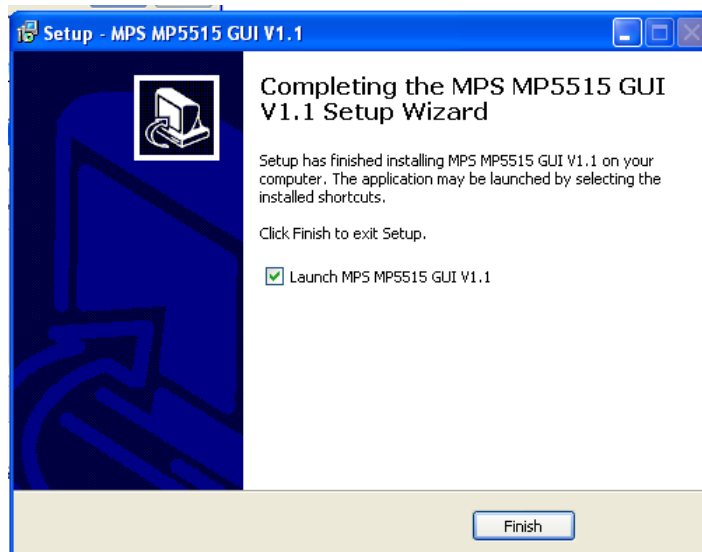

Figure 5: MP5515 I²C GUI Set-Up Success
5. Wait for the status screen to verify that installation is complete (see Figure 5).